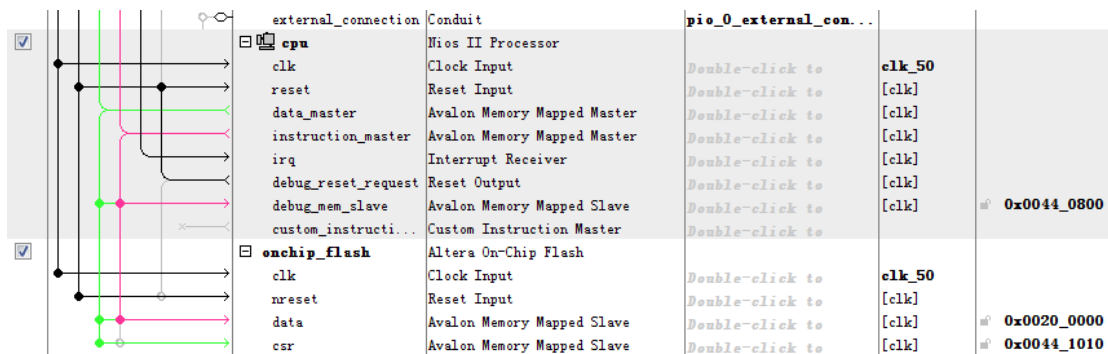

Figure 8-9 Qsys Design
- An onchip flash controller ip should be added into the Qsys for storing software code. The CPU data master and instruction master interface are connected to the onchip flash data bus as shown in **Figure 8-9**.